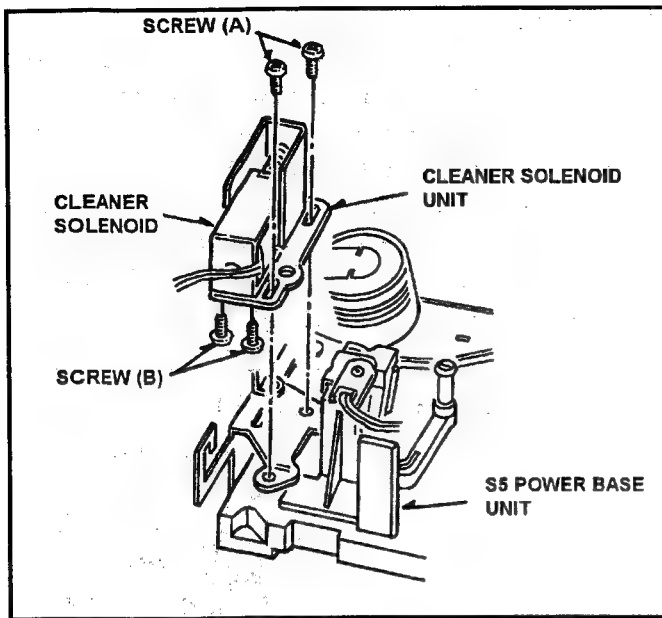

Fig. 8-13-1 Removal of Cleaner Solenoid
4. Unscrew the 2 screws (A) and remove the Cleaner Solenoid Unit as shown in Figure 8-13-1.